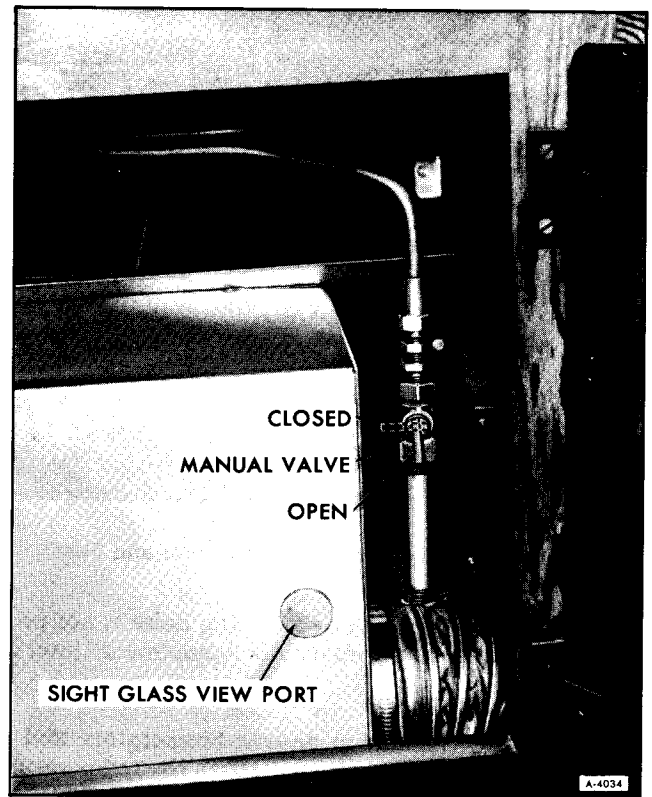

Figure 5—Manual Valve and View Port
3. Open manual furnace valve (figure 5).
2. Close furnace manual valve (See figure 5).